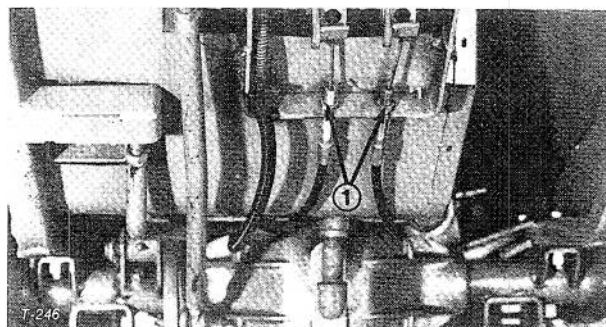

Figure 30
2. To reduce free travel of brake pedals — tighten the brakes — loosen front nut on threaded end of brake cable (Fig. 30). Then tighten rear nut to move cable backward until brake pedals have 1/2 to 1 inch (13 mm to 25 mm) of free travel. Tighten front nut after brakes are adjusted correctly.